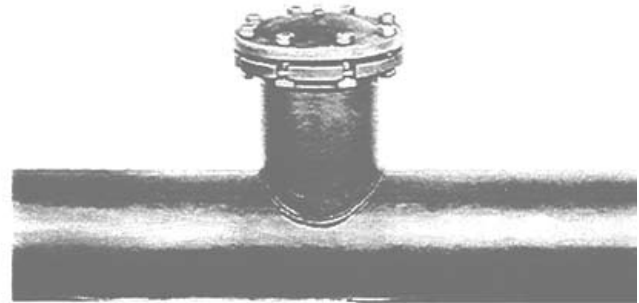

FIGURE 57
19. Bolt cap solidly to nipple flange. **Figure 57**.